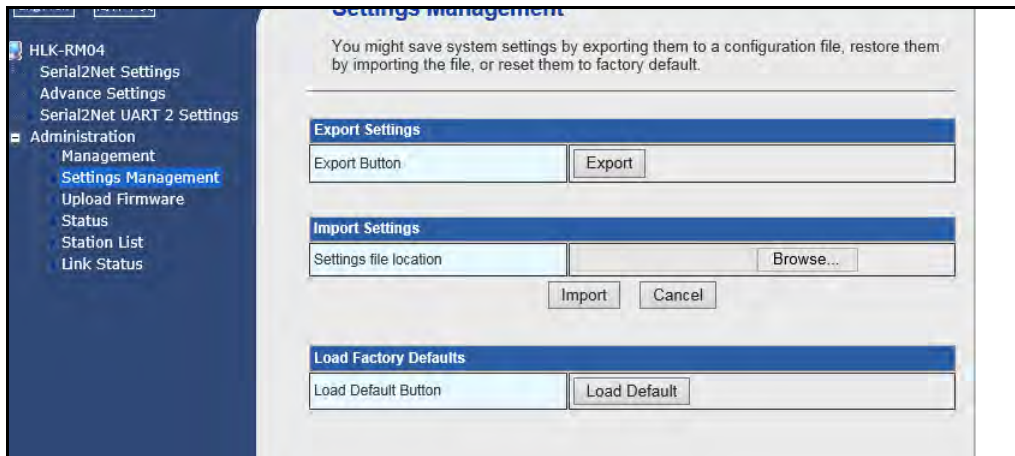

Figure 4-19. Setting Management
To save the current setting of the SCT-2200 Wi-Fi click **Export** in the Settings Management menu. See Figure 4-19. The module will create a DAT file of the settings. Follow the browser prompts to save the file in a folder on the computer.
1. Click **Browse...** in the import settings menu. See Figure 4-19.